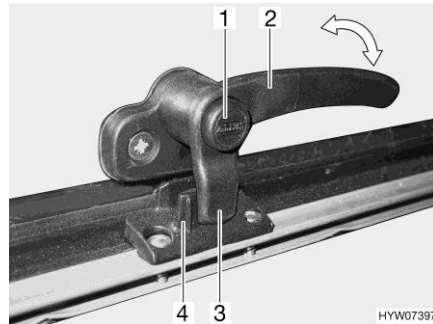
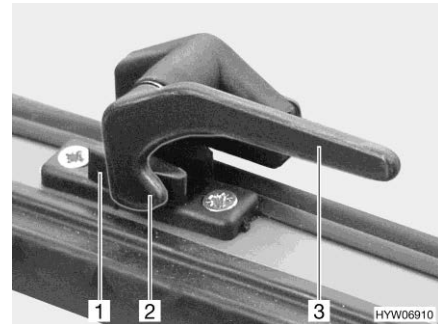

Fig. 96 Catch lever with safety knob in "closed" position
Fig. 97 Catch lever in "closed" position
- Press and hold the safety knob (Fig. 96,1), if present.
- Turn the catch lever (Fig. 96,2 or Fig. 97,3) a quarter turn towards the centre of the window.
- Turn the catch lever (Fig. 96,2 or Fig. 97,3) a quarter turn towards the window frame.
The locking catch (Fig. 96,3 or Fig. 97,2) on the catch lever is entirely on the inner side of the window catch (Fig. 96,4 or Fig. 97,1).
- "Firmly closed" (Fig. 96 and Fig. 97)